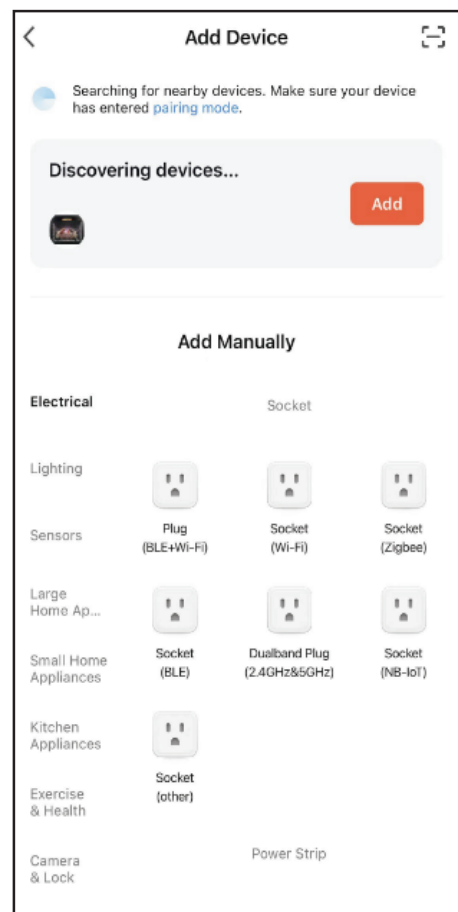
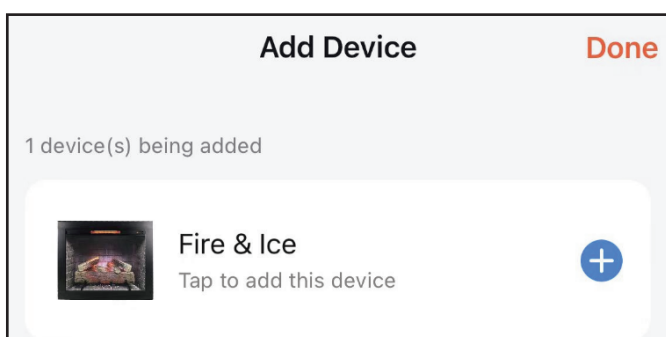
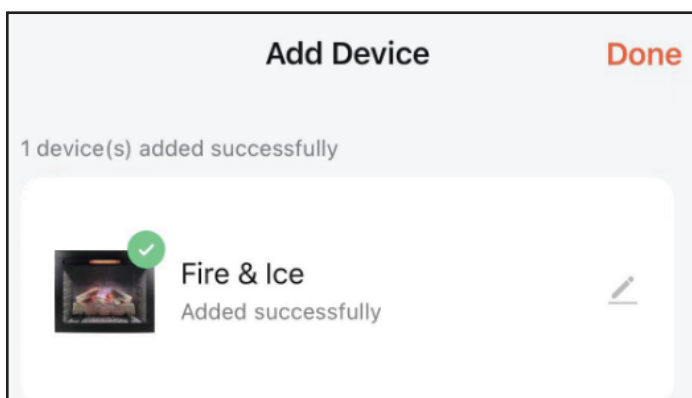
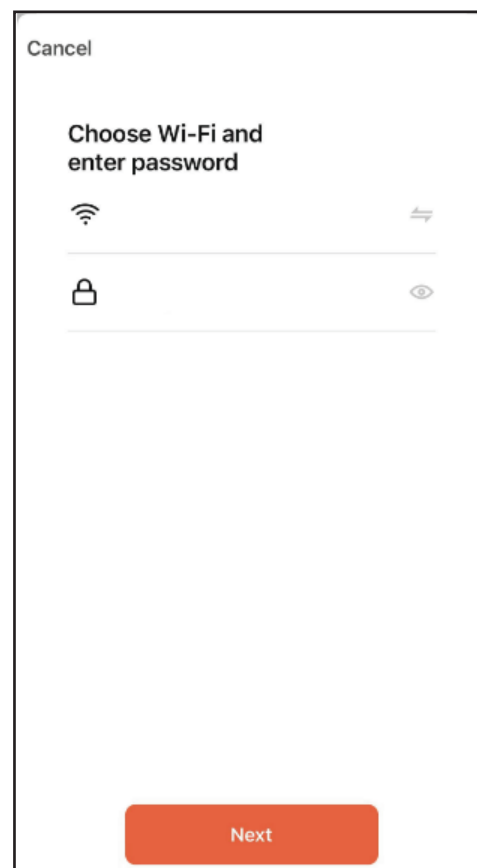

Figure 2
Figure 3
Figure 5
Figure 4
2. When you log in, the APP will scan and add the fireplace to APP(Figure.2) automatically. Touch “Add” to enter in Figure 3. Touch “+” to set your Wi-fi account and password(Figure 4). Touch “Next” to enter Figure 5. Touch “Done” to finish Wi-fi setting.